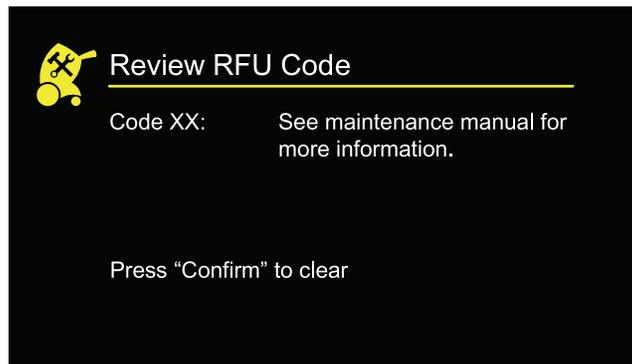

Figure 3 – RFU Code
3. To clear the RFU Codes, select **Confirm** (Figure 3).